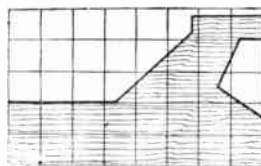

Fig. 4—Half shape of top
Figs. 4, 5 and 6 simply show the patterns for the shaped parts of the cross rails and legs. Allowance must be also made for the extending tenons at the ends. It should be explained that the top rail (B) is $4\frac{1}{2}$ ins. wide at the centre, and that rail (C) is 2ins. wide.
Each pole should be wound in such a way that, looking at it from its free end, all the turns upon it are in the same direction as the turns upon each other pole, when looking at them from their free ends. This is shown in Fig. 4 and no difficulty should arise if the armature is held in one hand and each pole wound in the same direction with the other.
The ends of the windings should be soldered to the commutator segments in the manner shown in Fig. 4. The commutator is a push fit on the axle, but a little free wire should be left so that it can be rotated slightly in relation to the armature poles in order to obtain the best running position.